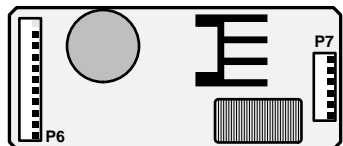
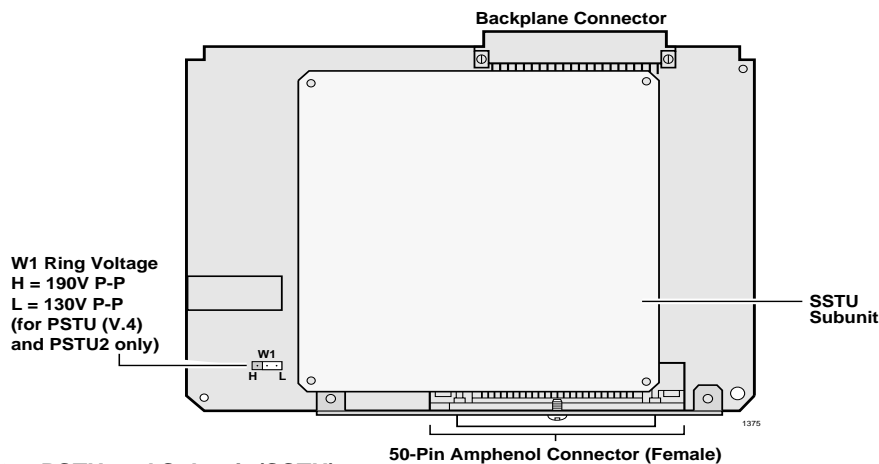
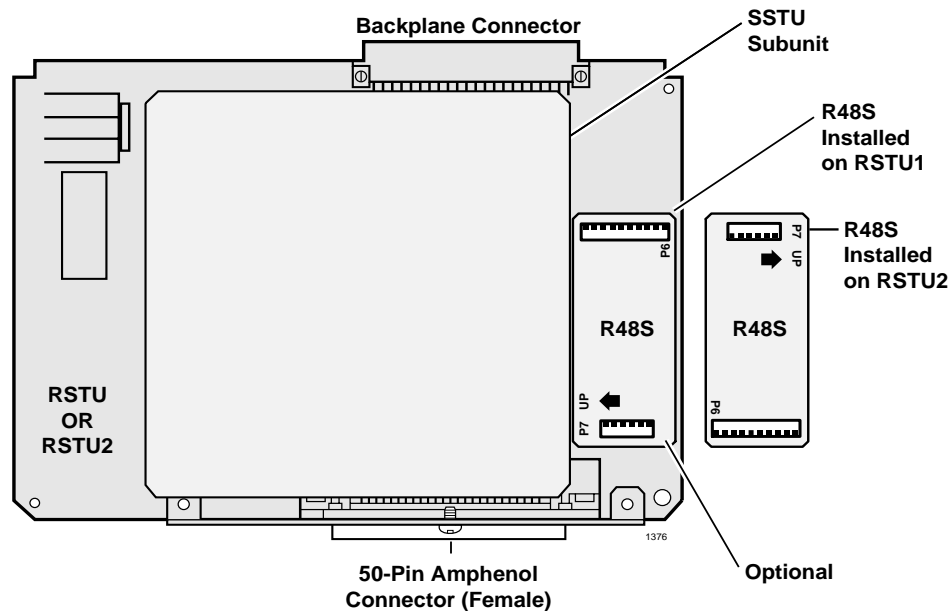

Figure 7-26 R48S Interface Connectors
Figure 7-27 PSTU and Subunit (SSTU)
Figure 7-28 RSTU2 Controls and Interface Connectors
See Figure 7-27 for an illustration of the PSTU1, PSTU2. Figure 7-28 shows the RSTU2. See Table 7-18, for details of the PSTU and RSTU2 controls and indicators.
- Mate the R48S connectors P6 and P7 (Figure 7-26 and Figure 7-28) with the R48S connectors P6 and P7 on the RSTU or RSTU2.
1. Make sure the factory-installed SSTS or SSTU subunit is securely attached to the RSTU2 (Figure 7-27 and Figure 7-28).